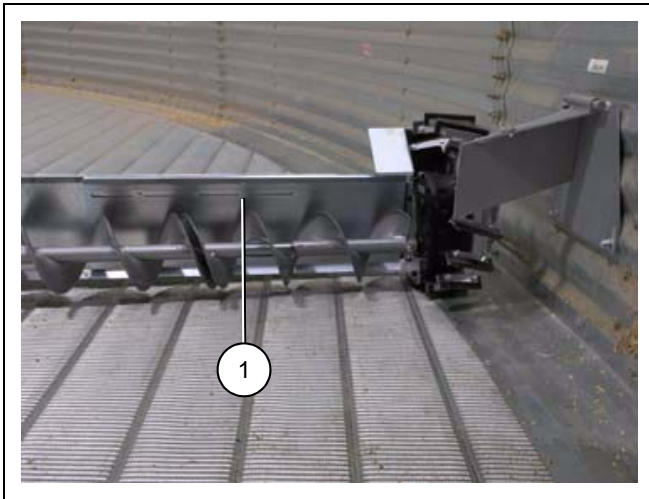

Figure 4T
2. To adjust overall sweep length, slack off four mounting bolts holding adjuster plate to sweep and slide in or out to set length. (See Figure 4T.)